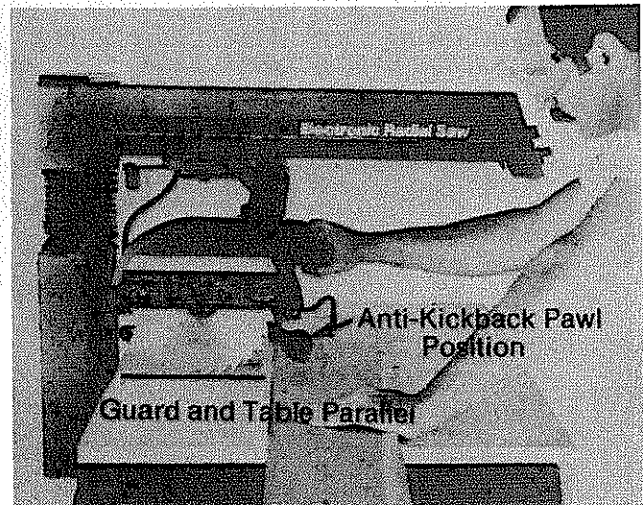

Fig. 145 - Crosscut Blade Guard and Body Position
**WARNING:** To reduce the risk of contact with the upper half of the blade and keep the workpiece from jamming in the guard, set the blade guard in the horizontal position. Fig. 145.
WARNING: The blade guard must be horizontal to provide protection from contact with the upper half of the blade and avoid the workpiece being jammed in the blade. Set the blade guard in the horizontal position. Fig. 145